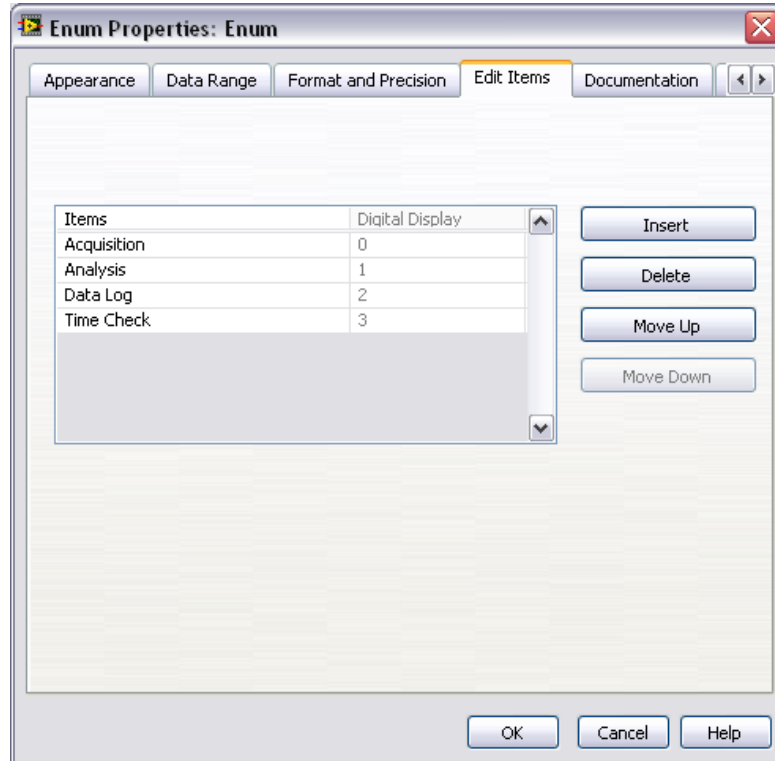

Figure 4-26. Enum Control Dialog Box
- Enter the item names shown in Table 4-2. Figure 4-26 shows an example of the Enum Properties dialog box, with the item names entered. Be careful not to add any blank entries to the list.